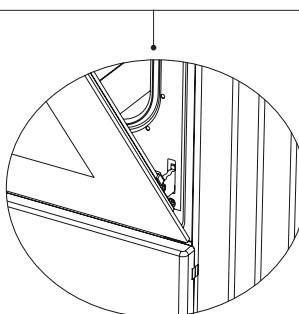

Figure 15.1
3. Afterwards, close the oven door as to lean on the hinge lock as shown in figure 15.1.